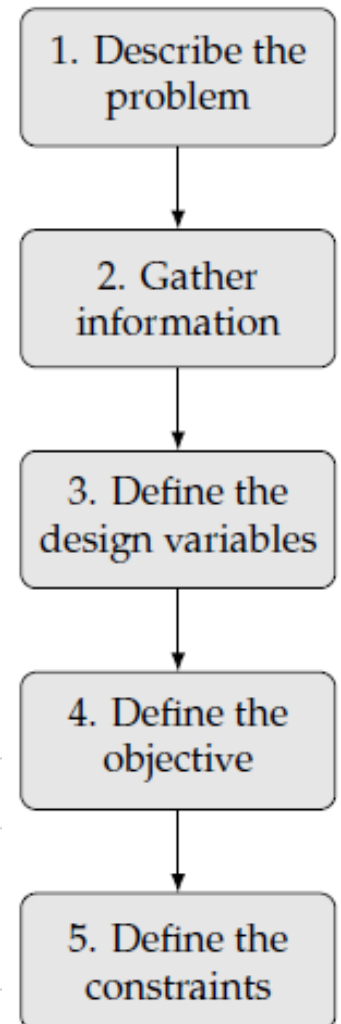

Figure 1.05 Steps in optimization problem formulation.
- Fig. 1.05 outlines the sequence to formulate the optimization problem.